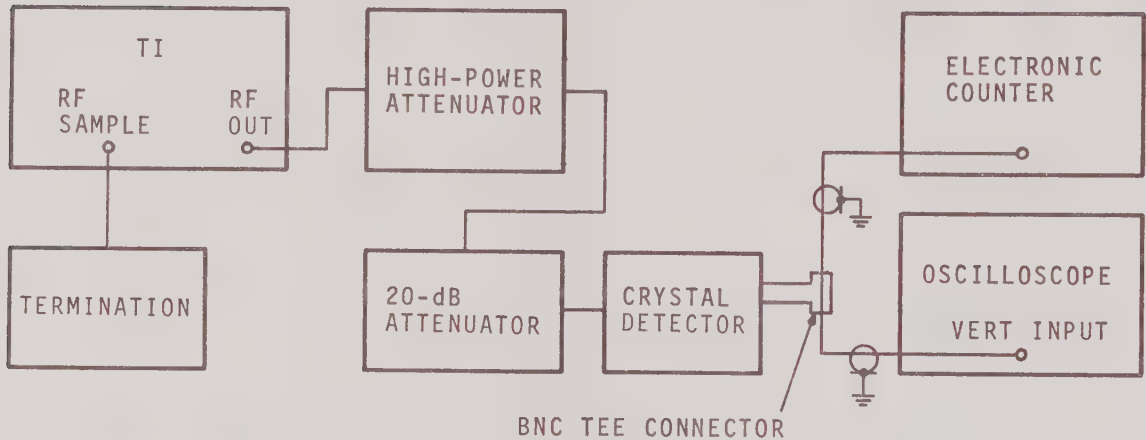

FIGURE 6-3. INTERNAL MODULATION TEST CONFIGURATION
- a. Connect the applicable equipment as shown in Figure 6-3.